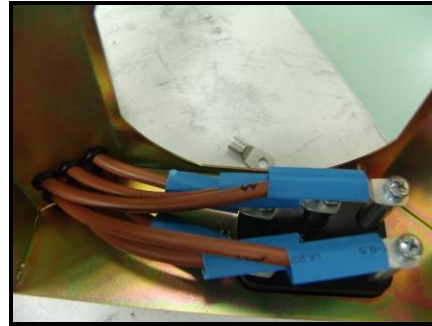

Figure 7.2.20
- 3) Disconnect all the cables of dV/dt choke which are joined to the fan structure (see figure 7.2.20).